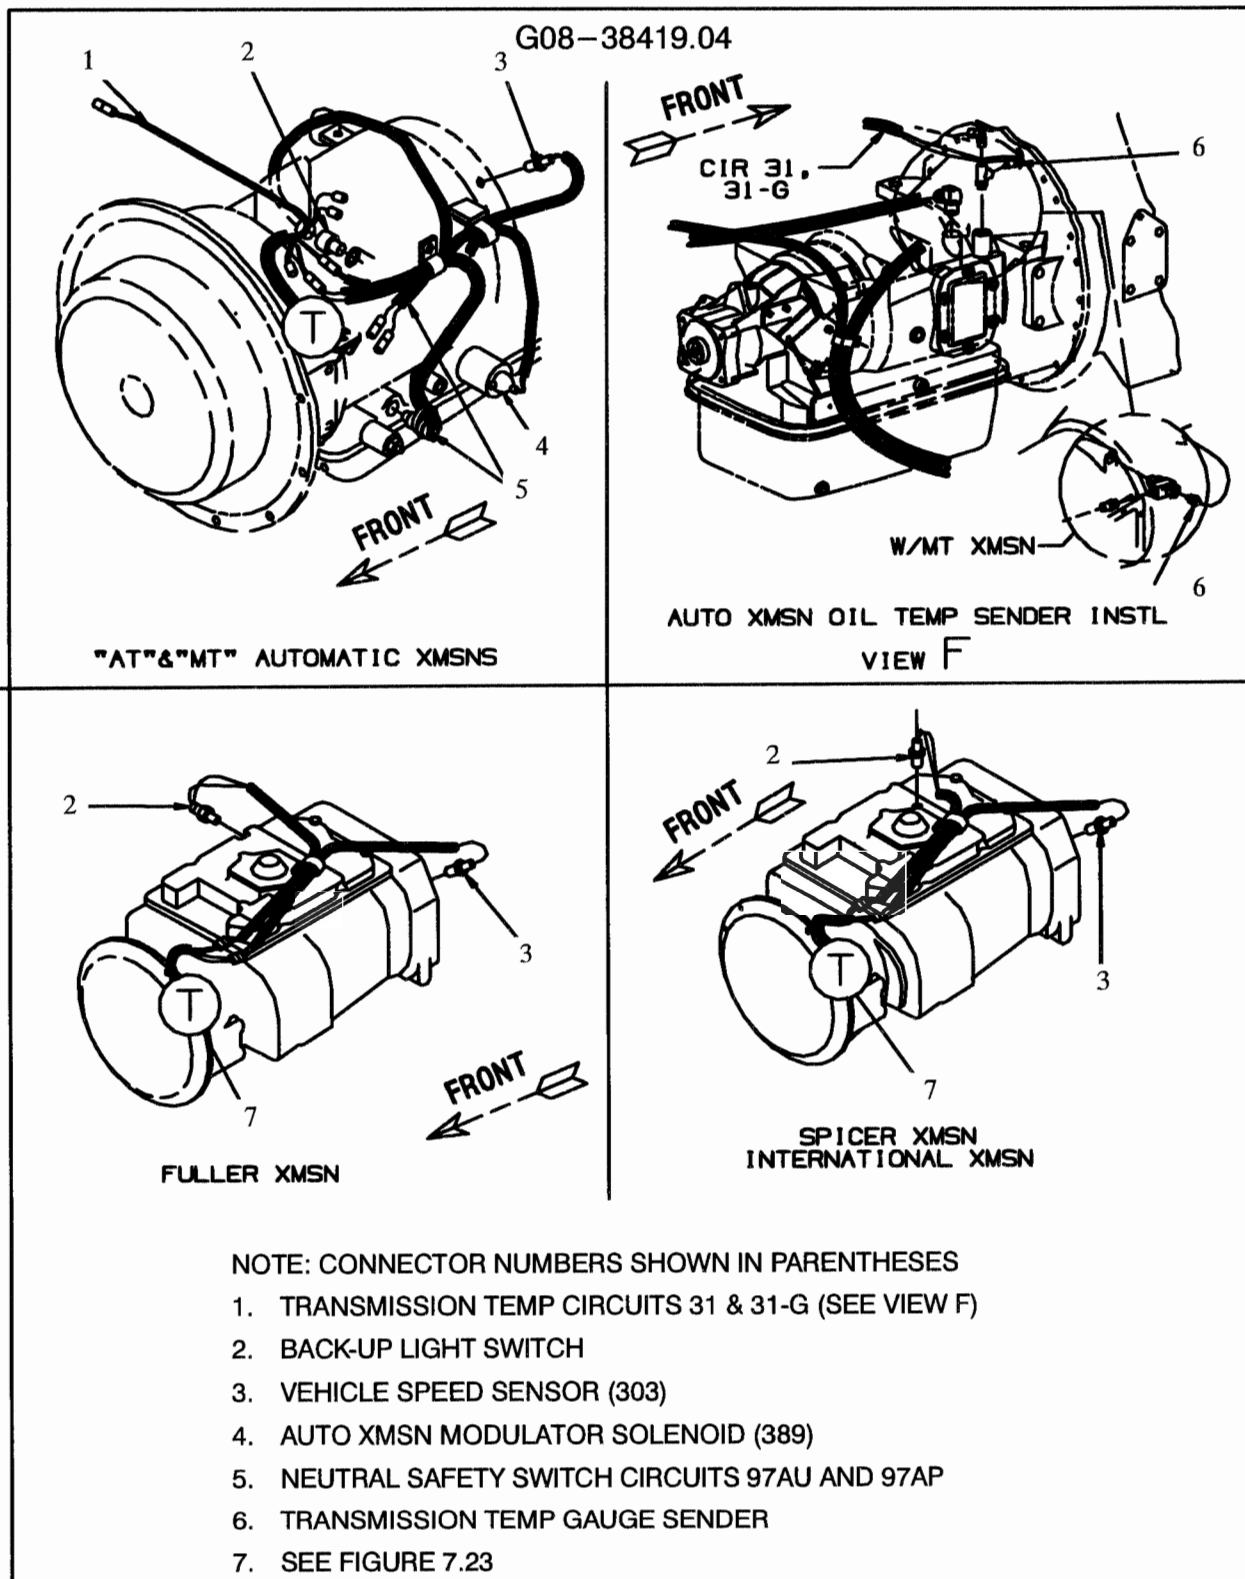

Figure 7.25 - V8 Electronic Engine Wiring At Transmission (Truck & FBC)
10. START MOTOR CRANK RELAY (387)
11. SEE FIGURE 7.25